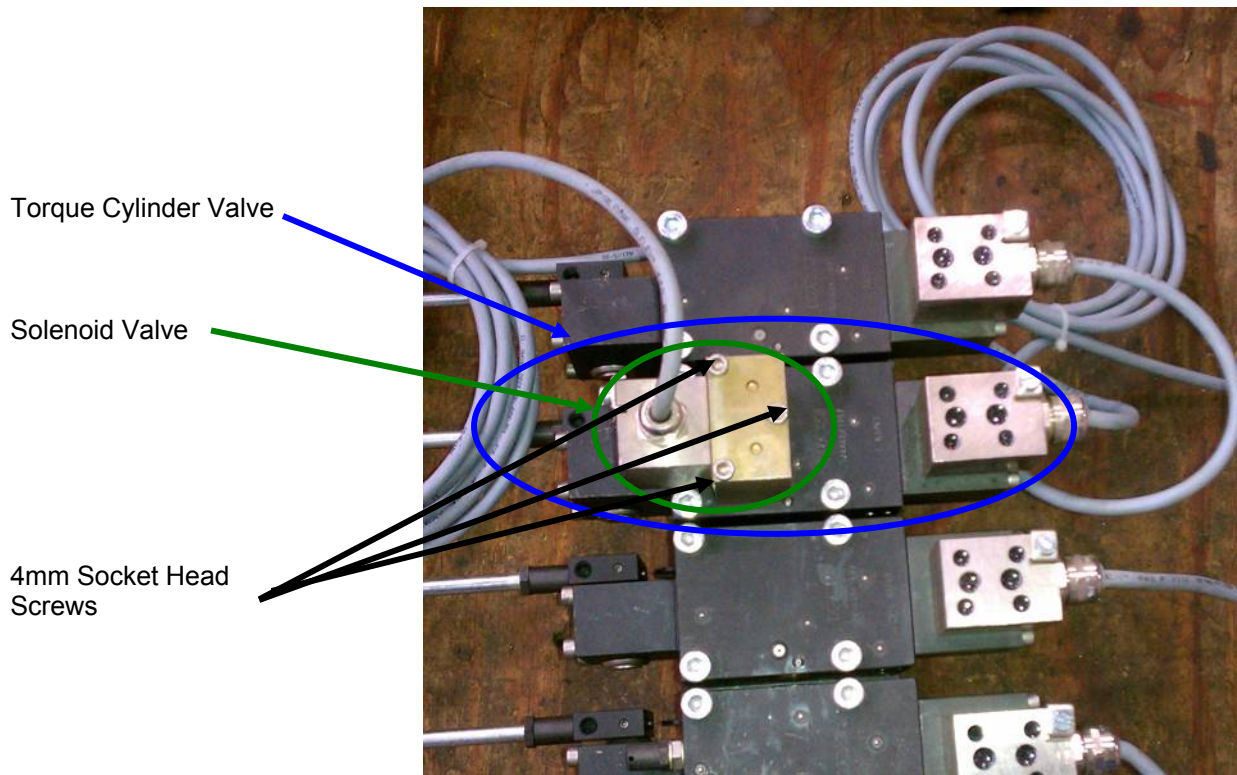

Figure 1: TM-80 Tong Valve Bank
3. Locate the torque cylinder valve. The torque cylinder valve is located on the tong valve bank. On the TM-80, the torque cylinder valve is located second from the right as you are looking at the tong valve bank. On the TM-120, the torque cylinder valve is located second from the left as you are looking at the tong valve bank. A solenoid is attached to the valve (see Fig 1). The parts to be replaced are located at the interface between the solenoid valve and the torque cylinder valve body.
4. Remove the solenoid valve from the tong cylinder valve by loosening the 4mm socket head screws (see Figure 1) with a socket head wrench.